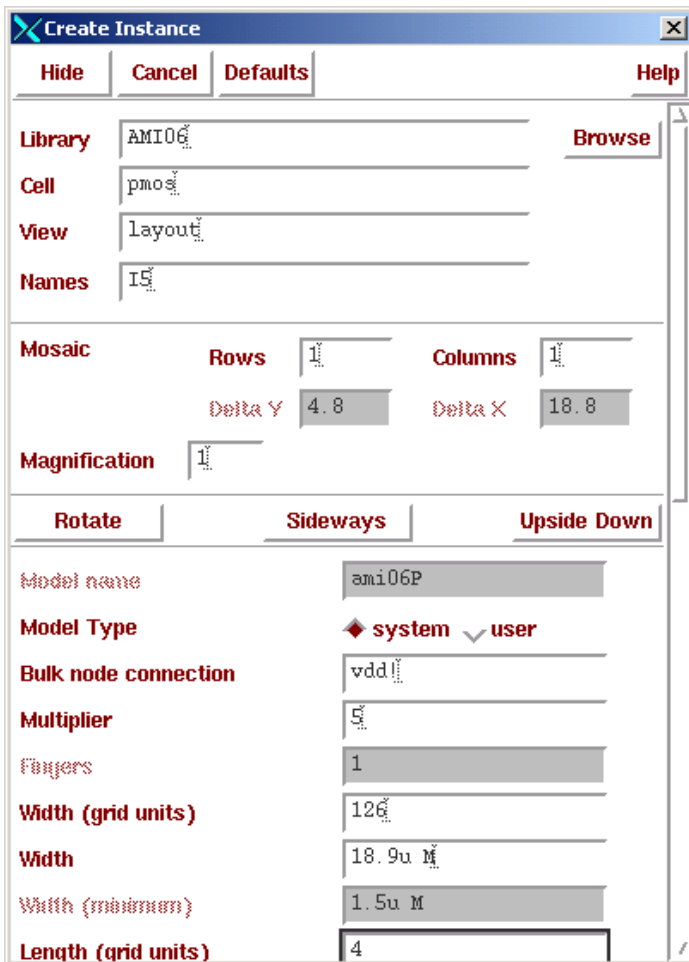

Figure 74: PMOS Transistor with a Multiple of 5.
1. For the PMOS transistor, in the Create Instance pop-up, fill it out like Figure 74. Note the width is rounded to 18.9u by the software. Make sure you set the multiple to 5.